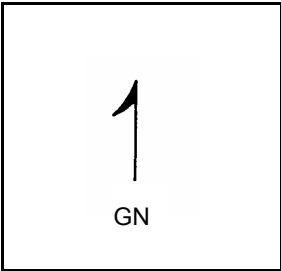

Figure 1-3. North-Seeking Arrow
1-3. North-Seeking Arrow. To allow proper orientation, a north-seeking arrow must be located somewhere on the overlay. North can be shown by using either the grid or the magnetic north. When grid north (GN) is used, indicate such by marking the arrow as GN. Indicate magnetic north (MN) by marking the arrow as MN. GN is most commonly used on overlays because of convenience (*Figure 1-3*).